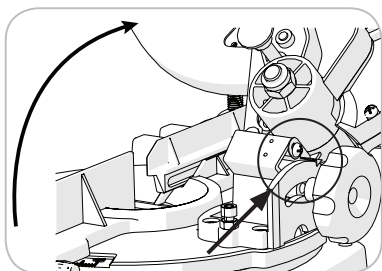

Fig. 20b
- Tilt the Cutting Head to the required angle. A protractor scale is provided as an aid to setting. **(Fig 20b)**